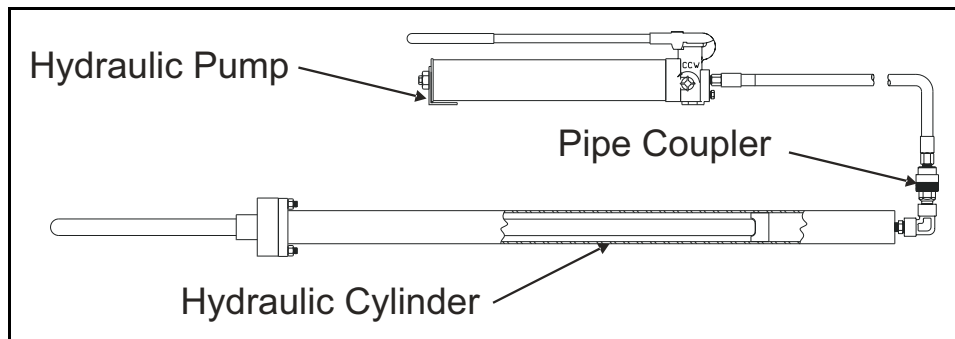

Figure 33: Reattaching the Hydraulic Pump
2. If it was previously removed, re-attach the hydraulic pump to the hydraulic cylinder at the pipe coupler (see *Figure 33* below).